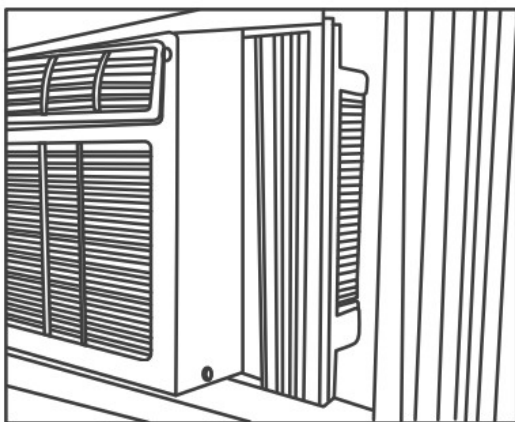

Fig.5
2. Keep a firm grip on the air conditioner, carefully place the unit into the window opening so the bottom of the air conditioner frame is against the window sill (Fig.5). Carefully close the window behind the top rail of the unit. (Suggest to keep a down-ward oblique, to let accumulated rain water to drain out, from back side of the unit bottom.)